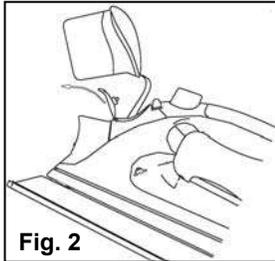

Fig. 2
2. Holding the iron at a slight angle, pour water slowly into the water filling inlet. See figure 2. Fill tank to desired level or to the "MAX" water level marking using the water filling flask. (When the iron is upright, see-through water tank allows you to gauge the amount of water.) **DO NOT** overfill the tank.